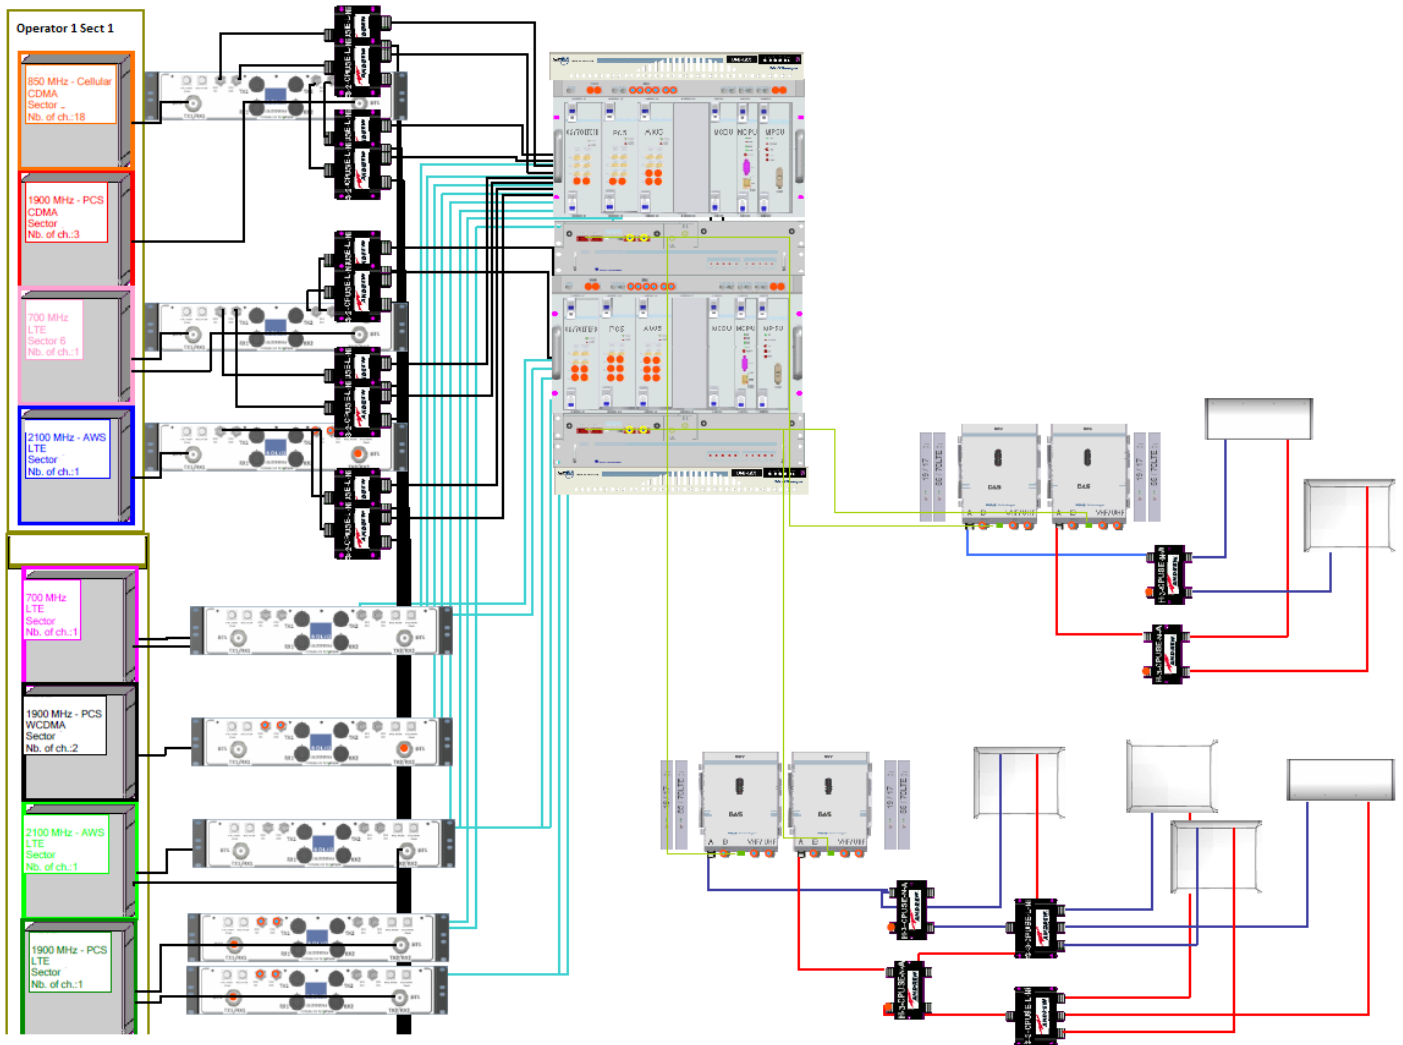

Figure 25. DAS design
1. Design drawings, like the one shown in Figure 25, are highly detailed and accurately depict equipment placement, including riser diagrams and floor-by-floor layouts.